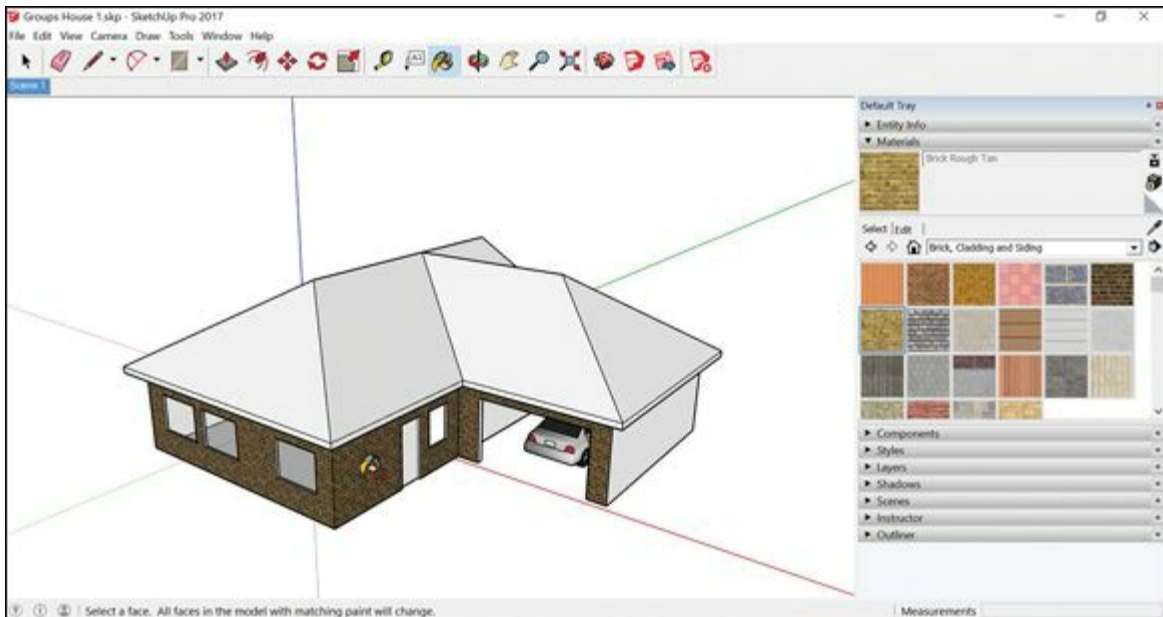

FIGURE 3-28: Press Shift and click with the Paint Bucket to replace one material with another.
- » **Holding down the Shift key paints all similar faces.** Don't like the dark brick on your house model? Select a new material in the Materials panel, hold down the Shift key, and click any face with the brick applied. In Figure 3-28, Paint Bucket tool is ready to change the dark brick to a lighter option, which you see as the active material in the upper left of the Materials panel. When you're done, all faces in your model that match the one you click are painted with the new material. If things don't turn out the way you want, just choose Edit ⇒ Undo to go back a step.